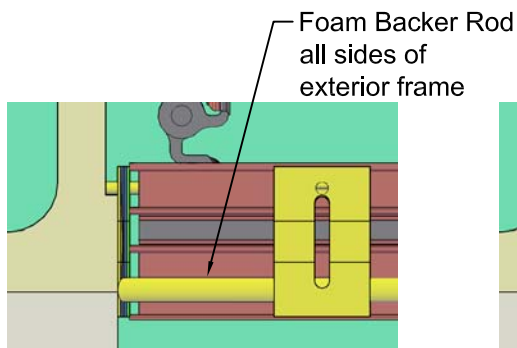

Fig. 11
11) On the building exterior, place foam backer rod between the condition and the window to act as bond breaker and to limit the amount of sealant pumped into the joint. See Fig. 11